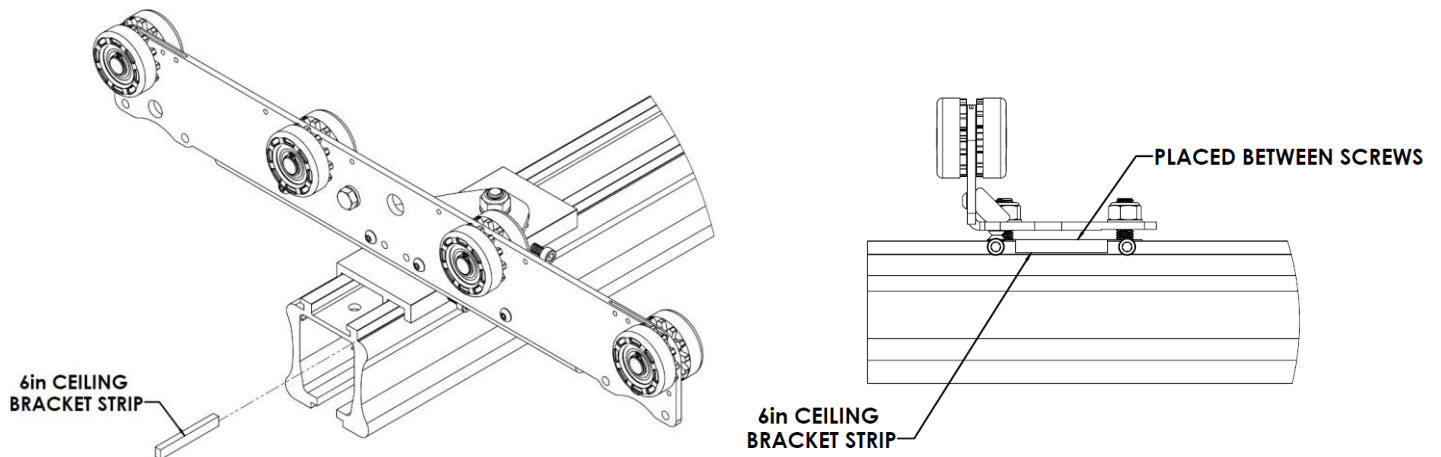

Figure 38: *Bracket Strip Installation*
11. On both gantry brackets, install the included bracket strips (360449) between the track channel and the set screws, as shown in Figure 38. To insert the bracket strip:
**Make sure that the 6" ceiling bracket strip is properly installed between the screws of the gantry trolley bracket (see Figure 38).**